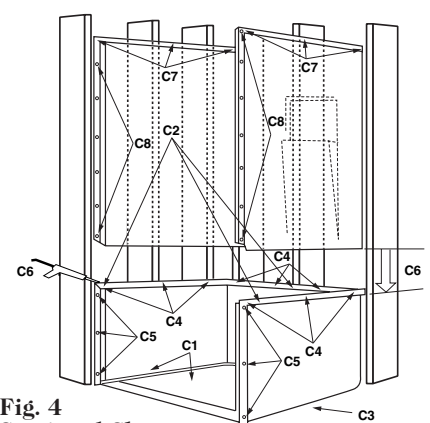

Fig. 4
Sectional unit 1363-BFC2P only [Fig. 4]
1. Disassemble unit as received into two separate sections [base and wall section]. [Fig. 4, C1]
2. Insert the three plastic fasteners [BathLocks] provided so they protrude upwards through each of the pre-drilled holes where the shipping bolts were as originally received. Use a hammer to tap in the fasteners. [Fig. 4, C2]
- a. Pre-drill all nailing flanges along top of base section and fasten into each corresponding stud. [Fig. 4, C4]
- b. Pre-drill both side nailing flanges and nail fasten to side studs 8" (205mm) on center. [Fig. 4, C5]
5. After silicone caulking all top base ledges, place wall section on top of base section and press down onto plastic fasteners [BathLocks] caulking until seams are closed. If seams don't close, shift studs which prohibit a proper fit. Tool and clean excess caulking per instructions on caulking tube. [Fig. 4, C6]
- a. Fasten all top nailing flanges of wall section as in step 4. [Fig. 4, C7]
- b. Fasten both side nailing flanges of wall section as in step 5. [Fig. 4, C8]